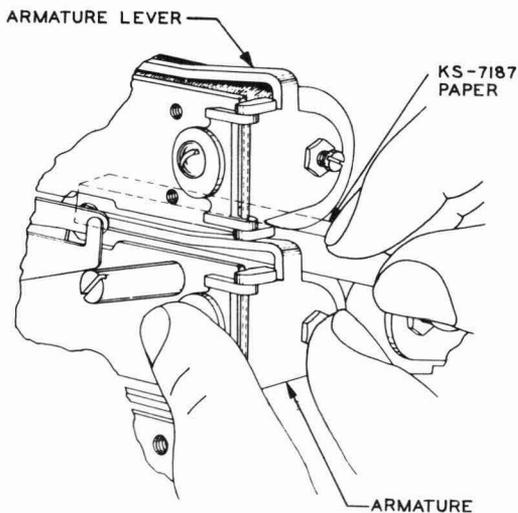

Fig. 54 – Method of Cleaning Backstop on 221-, 222-, 223-, 224-, 225-, 247-, 248-, 251-, and 252-type Relays
7.16 Fold a piece of KS-7187 paper in half lengthwise. Insert one side of the folded paper between the armature lever and the backstop as illustrated by Fig. 54, at the same time holding the armature operated to permit the paper to enter easily. Hold the armature against the backstop with a force sufficient to give a slight pressure between the armature lever and the backstop and then withdraw the paper. Repeat the operation until the paper shows no evidence of dirt when it is removed. Use a clean piece of paper for each operation.